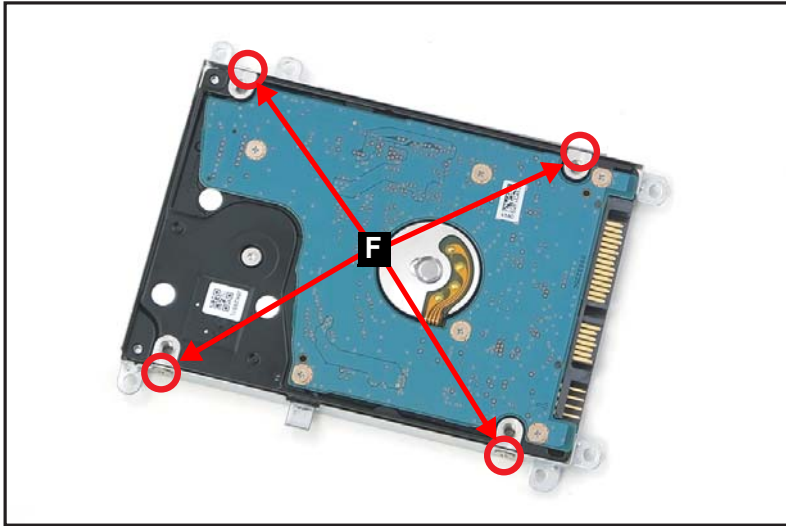

Figure 1-24. HDD Module Removal
6. Remove four (4) screws (F) from the HDD bracket (Figure 1-24).